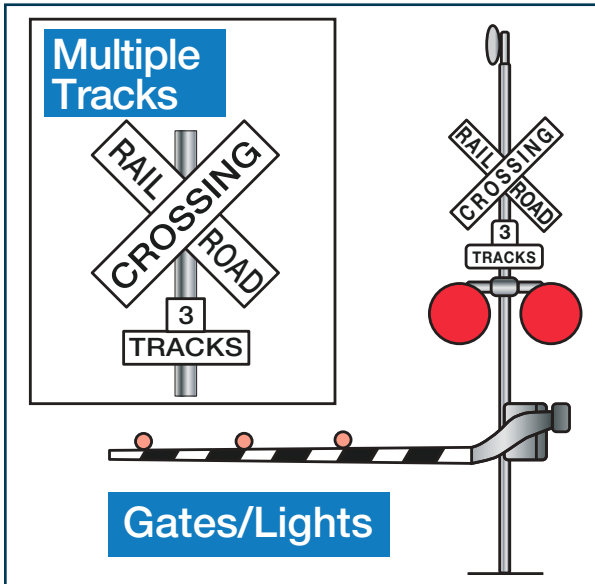

Figures 2.15 & 2.16
**Advance Warning Signs.** The round, black-on-yellow warning sign is placed ahead of a public railroad-highway crossing. The advance warning sign tells you to slow down, look and listen for the train, and be prepared to stop at the tracks if a train is coming. See Figure 2.15.